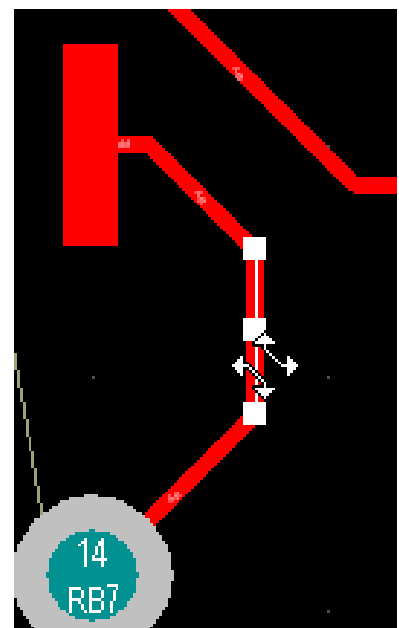

Figure 5. Note the special cursor, indicating that corner angles will be preserved when the selected segment is dragged.
- **Dragging tracks**, you can also drag track segments and preserve the 45 angle to the adjoining track segments. To do this first click to select the segment and the special cursor will indicate the mode (Figure 5). Then click and drag to move the segment. Alternatively, instead of clicking once to select the track segment first, hold the CTRL key as you click and drag on the segment.